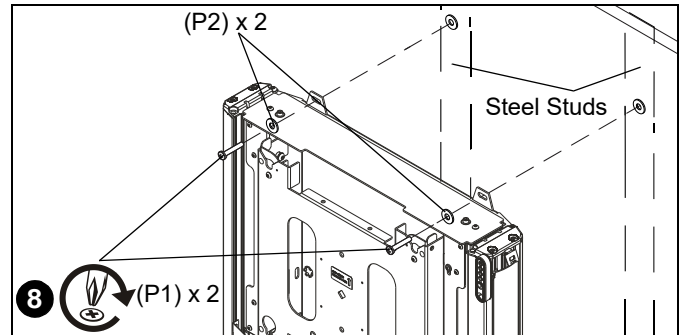

Figure 17
7. Place mount over anchors and align mounting holes on mount with holes in anchors. (See Figure 17)
8. Insert two 1/4-20 x 1-3/4" Phillips pan head screws (P1) through two 1/4" washers (P2), corresponding mounting holes on mount and into anchors (P3) and tighten until flush against mount. DO NOT overtighten! (See Figure 17)